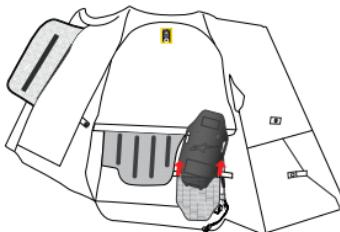

Figure 13
3. Remove the Inflator Housing (4) from its pocket by opening the two fastening hook-and-loop patches (Figure 13).
**WARNING! The removal of the Inflator Housing (4) doesn't require to be opened. Do not open the Inflator Housing (4). Only authorized Alpinestars Dealers may open the Inflator Housing (4) for servicing purposes.**